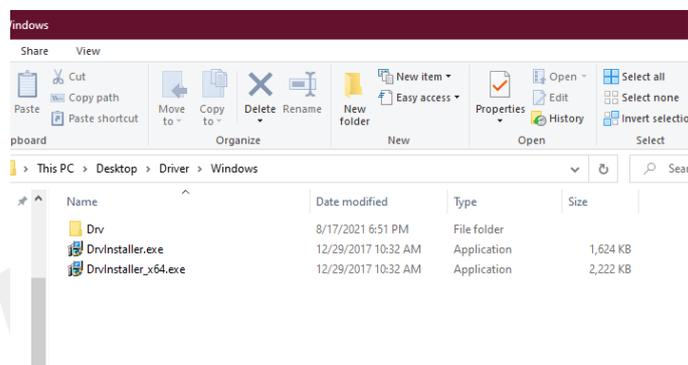

Figure 4: ASR drivers installation package
1. Unzipping software. The installation package is shown in Figure 4.